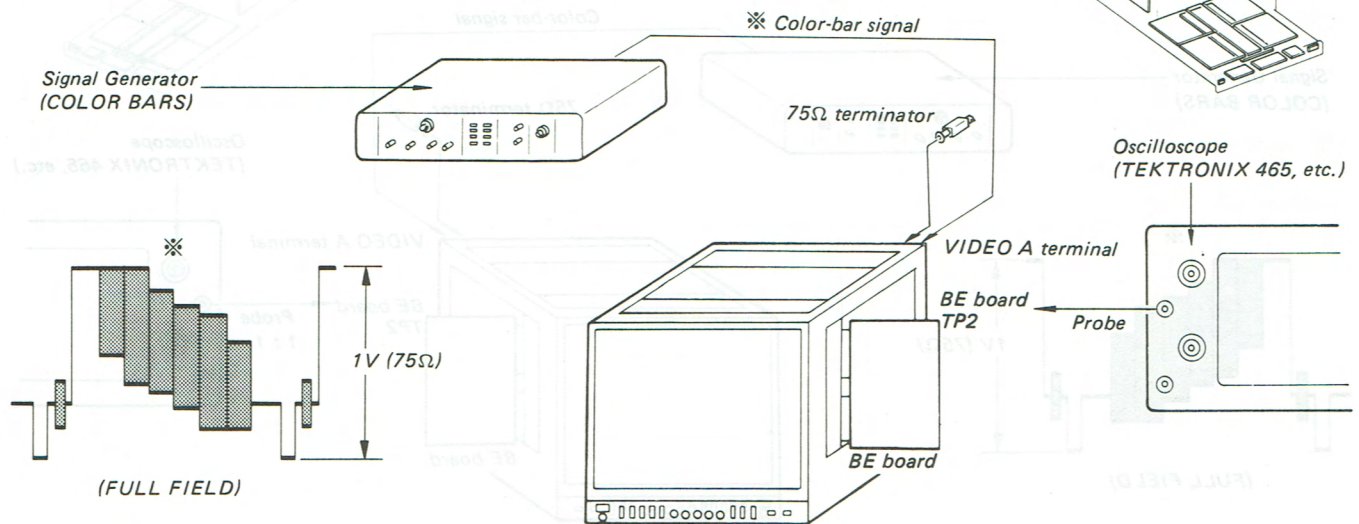

Fig. 25-1.
1. Complete the connections as shown in Fig. 25-1.